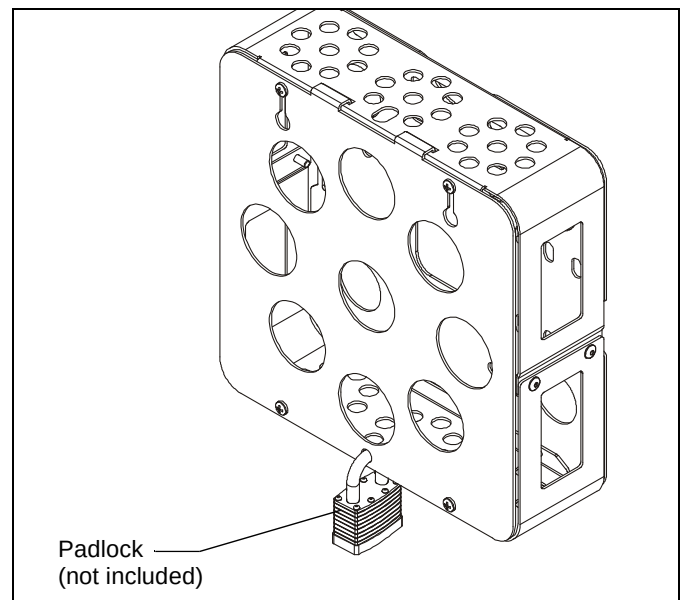

Figure 10
5. **OPTIONAL:** A padlock (not included) may be added to secure the FCA510/FCA515. (See Figure 10)